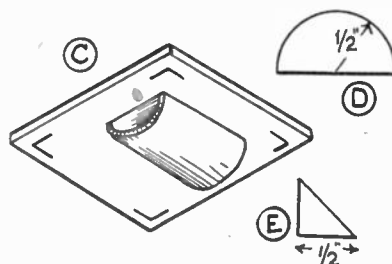

Fig. 2
To form the recess, two pieces of the perspex are sawn out to the semi-circular shape depicted at (D) in Fig. 2, then a strip of the same material bent round them. This strip should be